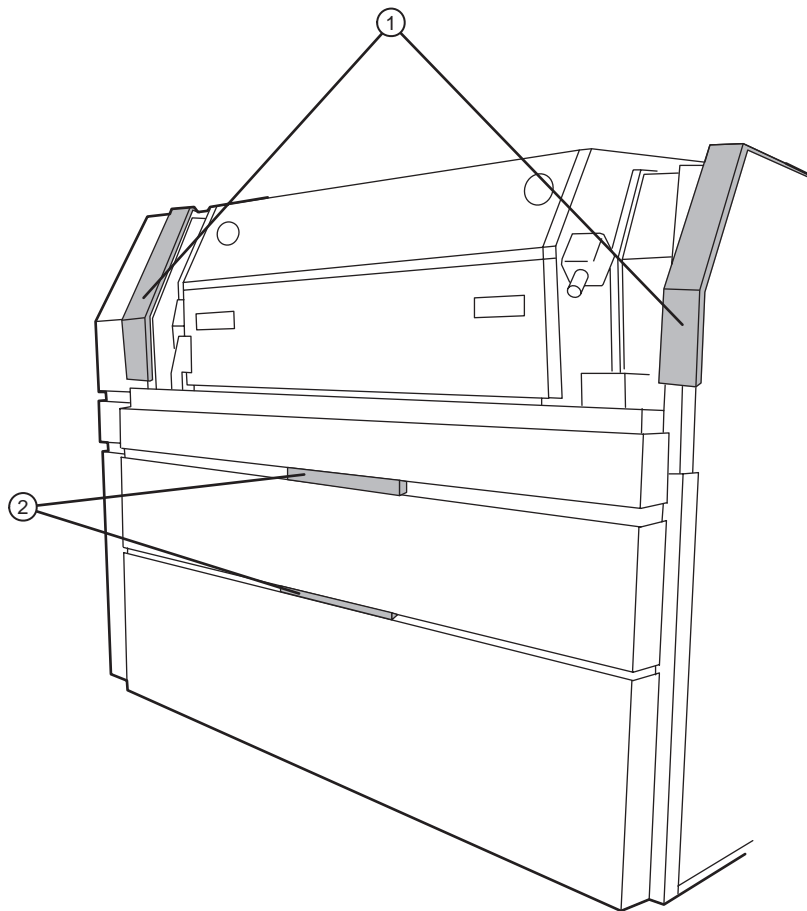

Figure 1-10 Removing the packing materials from the front of the imagesetter.
1. Remove the foam strips between the front panels and frames. Refer to Figure 1-10.
2. Lift the top cover and remove the packing strips on the frame rests, left and right. Refer to Figure 1-10.